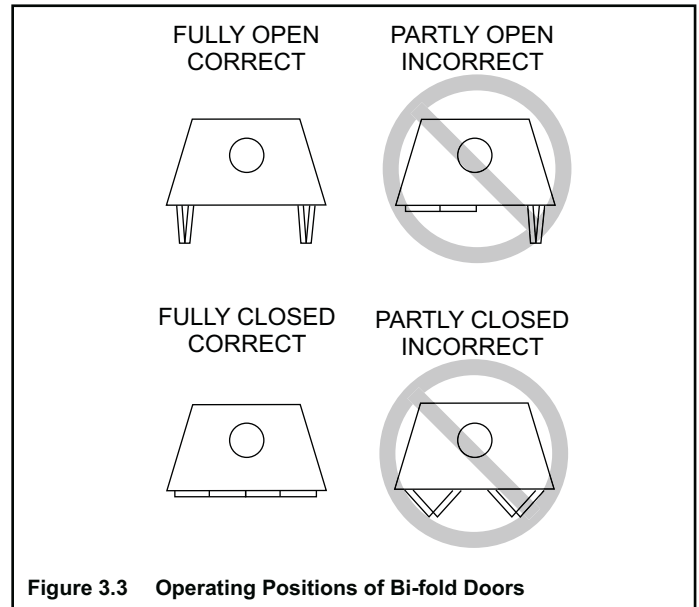

Figure 3.3 Operating Positions of Bi-fold Doors
- Refer to Figure 3.3 for proper use.